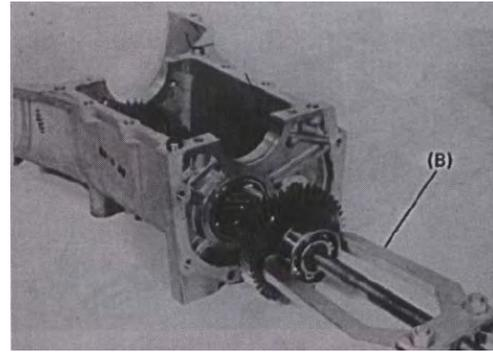

Fig 10-20
- (2) Remove countershaft rear bearing. Bearing puller (B)(special tool)(FIG.10-20)